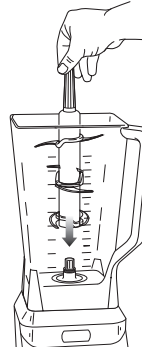

Fig. 4
- 6 Holding the Stacked Blade Assembly by the top of the shaft, place it onto the drive gear inside the pitcher. Ensure that the Stacked Blade Assembly is seated properly and is standing upright. (Fig. 4)